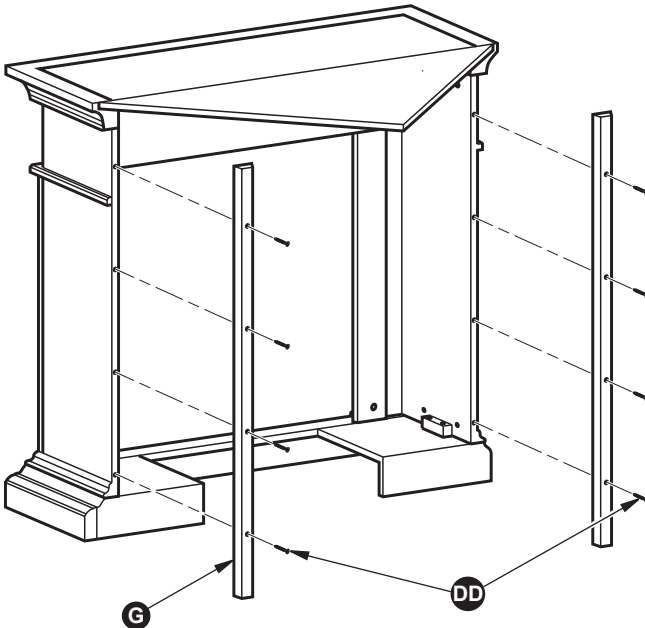

Figure 39
11. Attach the left and right Backboard (G) trim pieces to the back of the fireplace with 8) ST4 Screw 1 $\frac{3}{16}$ " (DD) as shown in Figure 39.